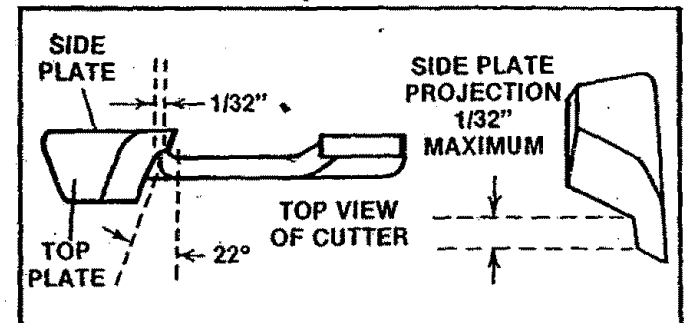

Figure 25
7. Maintain a 1/32" side plate projection. Figure 25.